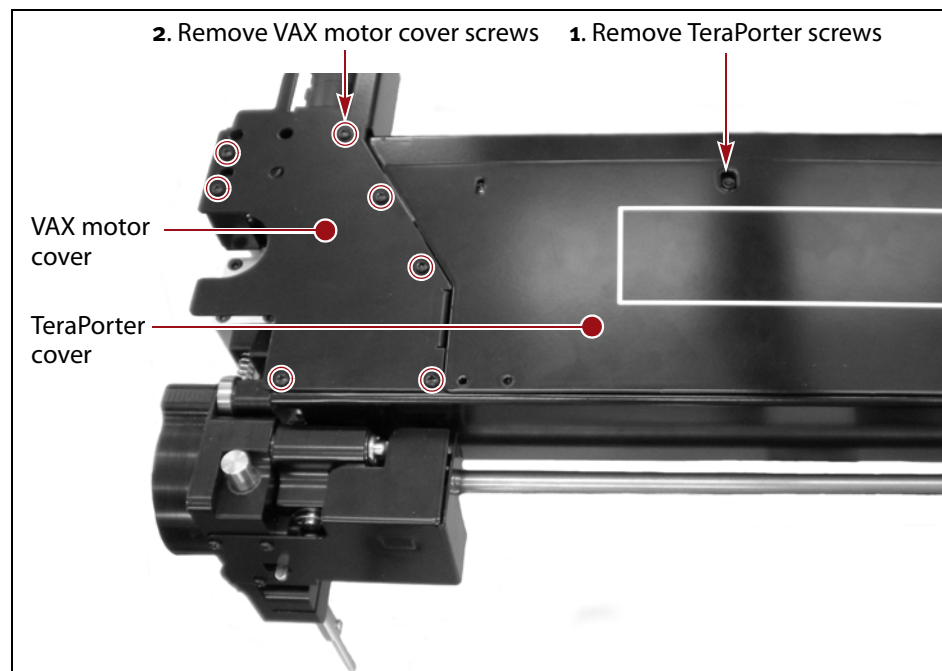

Figure 11 TeraPorter and VAX motor cover.
2. Using a #2 Phillips screwdriver, remove the seven black screws securing the VAX motor cover. Set the cover and screws aside (see Figure 11).